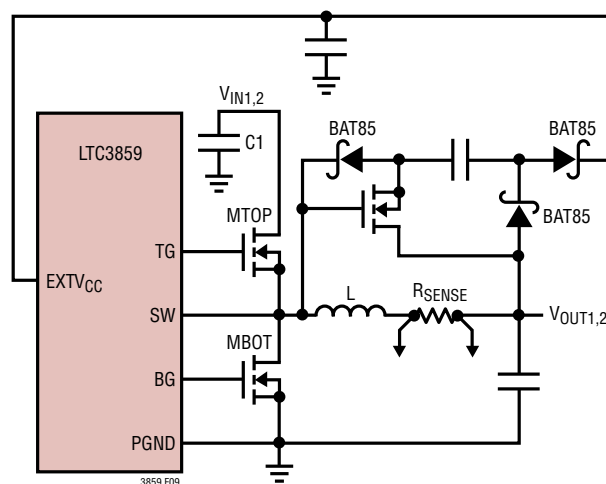

Figure 9. Capacitive Charge Pump for EXT_{CC}
4. EXT_{CC} connected to an output-derived boost network off one of the buck regulators. For 3.3V and other low voltage buck regulators, efficiency gains can still be realized by connecting EXT_{CC} to an output-derived voltage that has been boosted to greater than 4.7V. This can be done with the capacitive charge pump shown in Figure 9. Ensure that $EXTV_{CC} < V_{BIAS}$.